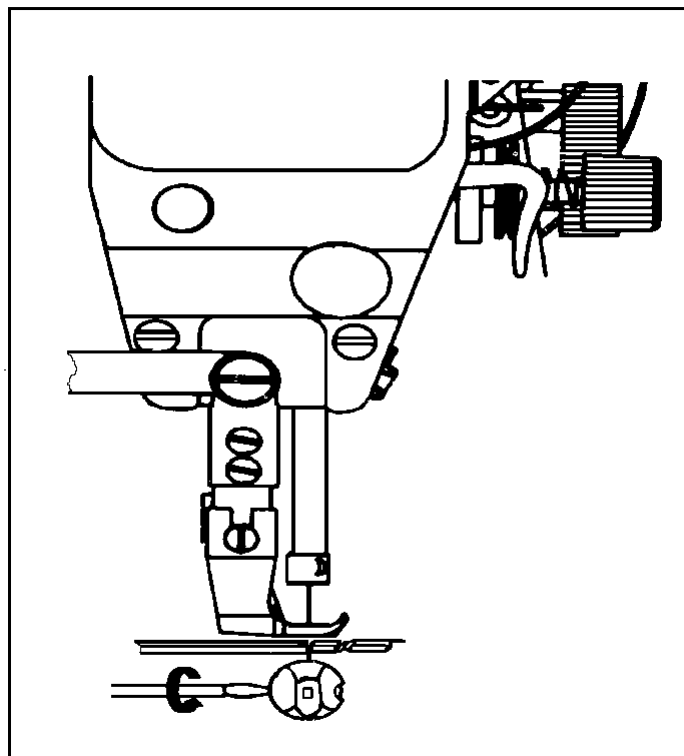

Fig. 16
1) In case needle thread tension is too strong or bobbin thread tension is too weak, as shown in Fig.15 ( b ), turn the thumb nut counterclockwise to decrease the needle thread tension, or tighten the tension spring regulating screw of bobbin case to increase the bobbin thread tension ( See Fig.16 )